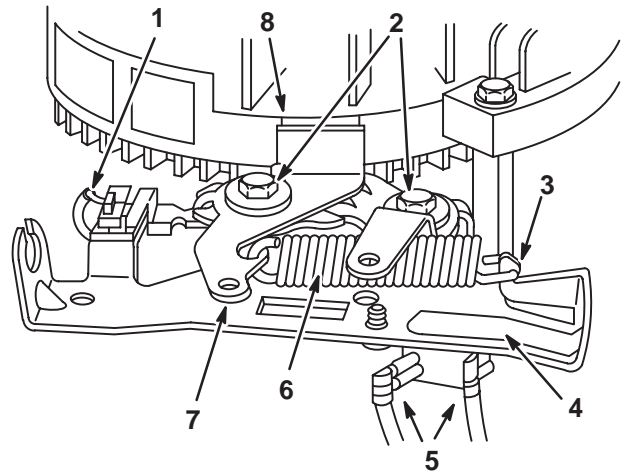

Fig. 38 – Removing Brake Bracket
7. Remove two screws from brake bracket and remove bracket, Fig. 38.
1. Install brake assembly on crankcase and torque mounting screws to 40 in. lbs. (5.0Nm) Fig. 38.
2. Install stop switch wire and bend end of wire 90°. Install interlock switch wires on interlock switch, if used, Fig. 38.